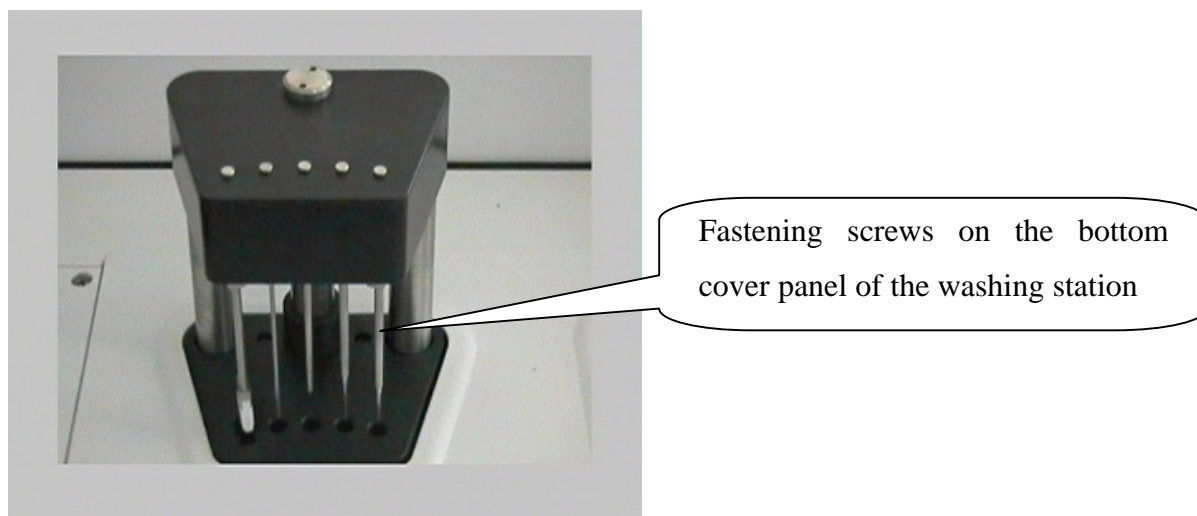

Fig. 4 Washing Station probes assembly PN. 23910000600
9. Unscrew the two fastening screws from the bottom cover panel of the washing station and lift it. (Fig. 4).